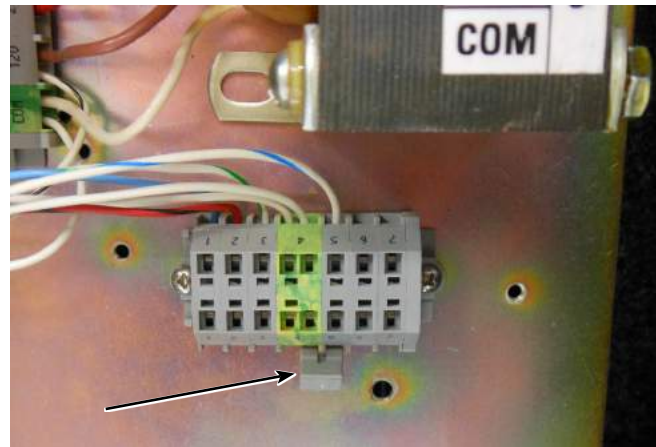

Figure 2. Removing jumper from TB8
3. In control boxes with a full back panel, locate the TB8 terminal board and use the back panel tool to remove the jumper between terminal 4 and 5. Refer to **Figure 2**. This step is not required for the short back panel.